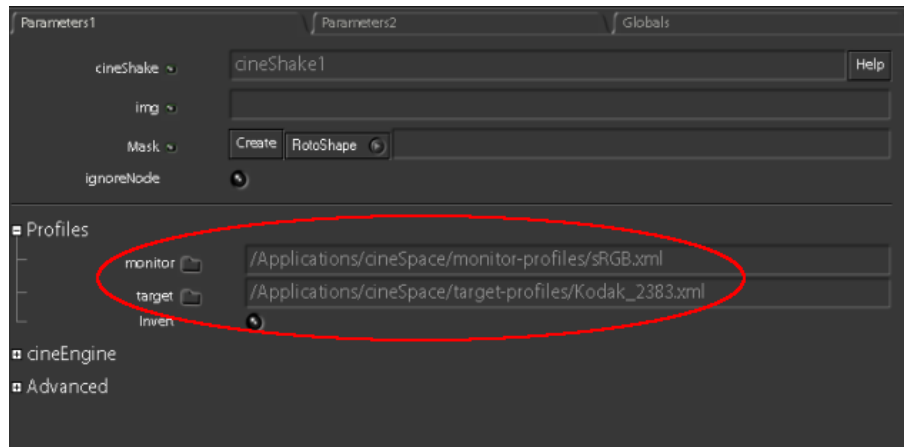

Figure 7.7: Select monitor and target profiles
- Select the profiles you would like to use (Figure 7.7). Use a recent monitor profile generated from cineProfiler for your monitor and select target profile of the colour space you would like to match.